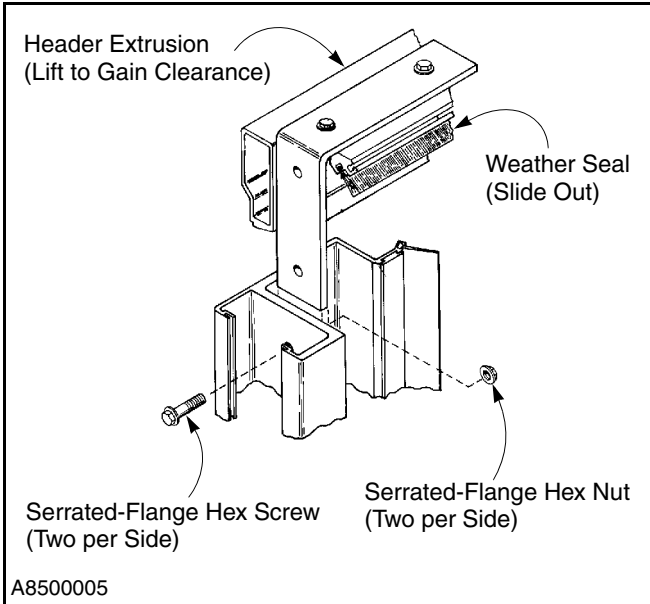

Figure 36
1. From either side, remove two serrated-flange hex screws and nuts securing the header extrusion and support bracket to the side column. (See Figure 36.)